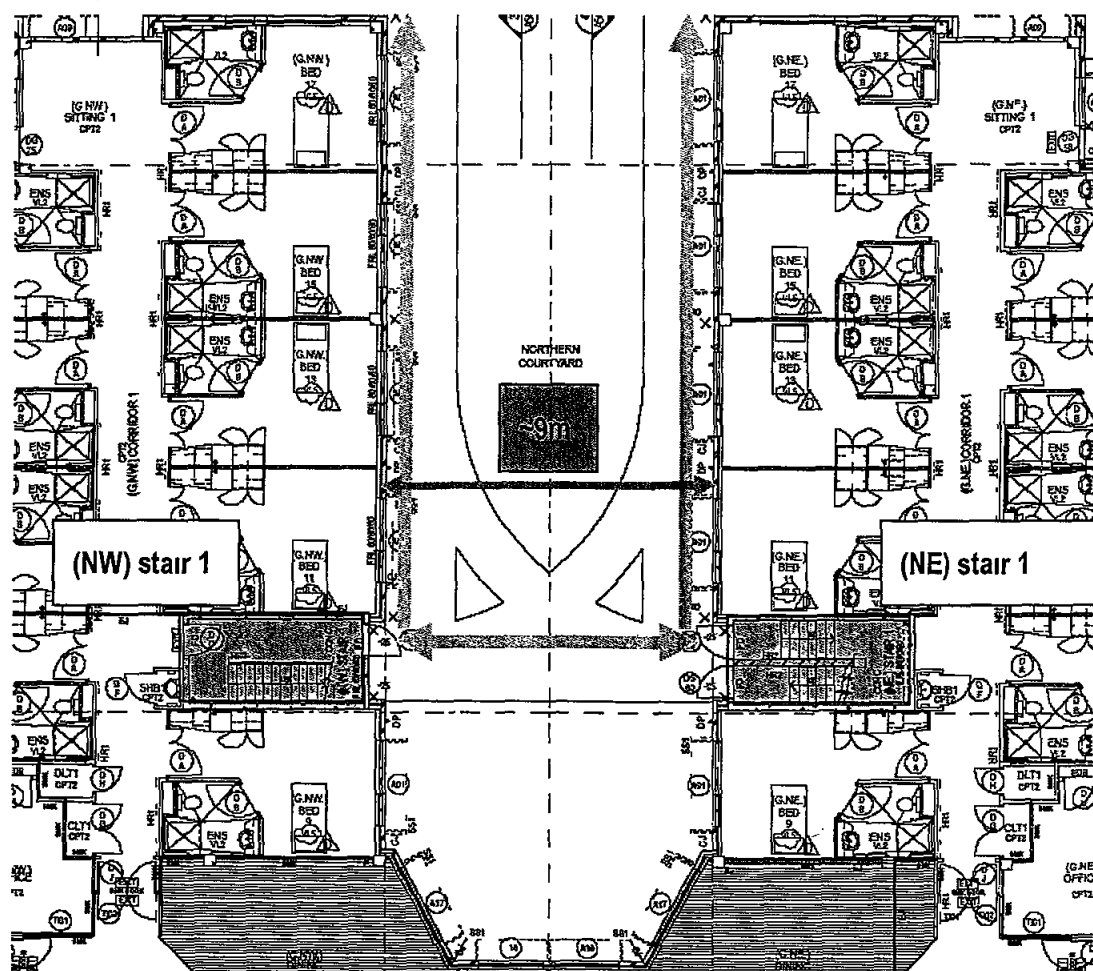

Figure 11 Discharge into the northern courtyard
The two stairs (NW) stair 1 and (NE) stair 1 do both discharge into the northern courtyard – refer to Figure 11. The NW wing and NE wing are separate smoke compartments.